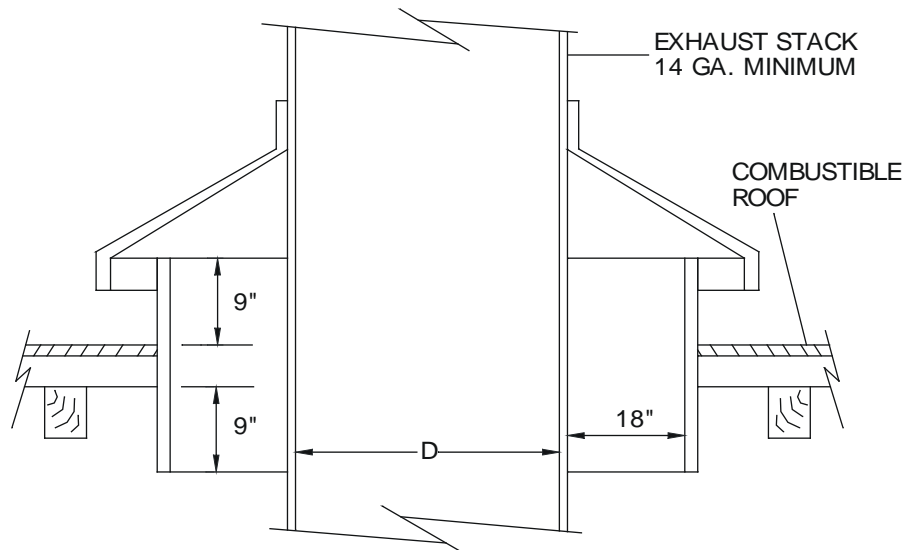

Figure 6. Exhaust Stack Installation Through Combustible Roof
- 7.7** Some Building Codes, e.g. National Fire Protection Association (NFPA) and/or Canadian Standards Association (CSA) and/or others, require that where a metal stack passes through a combustible roof such roof shall be guarded by a metal sleeve or thimble of their specific dimensions. In the absence of any jurisdictional requirements Vapor Power recommends that such a thimble be used that extends not less than nine inches above and below the roof and provide not less than eighteen inches clearance on all sides of the stack. (See Figure 6.)